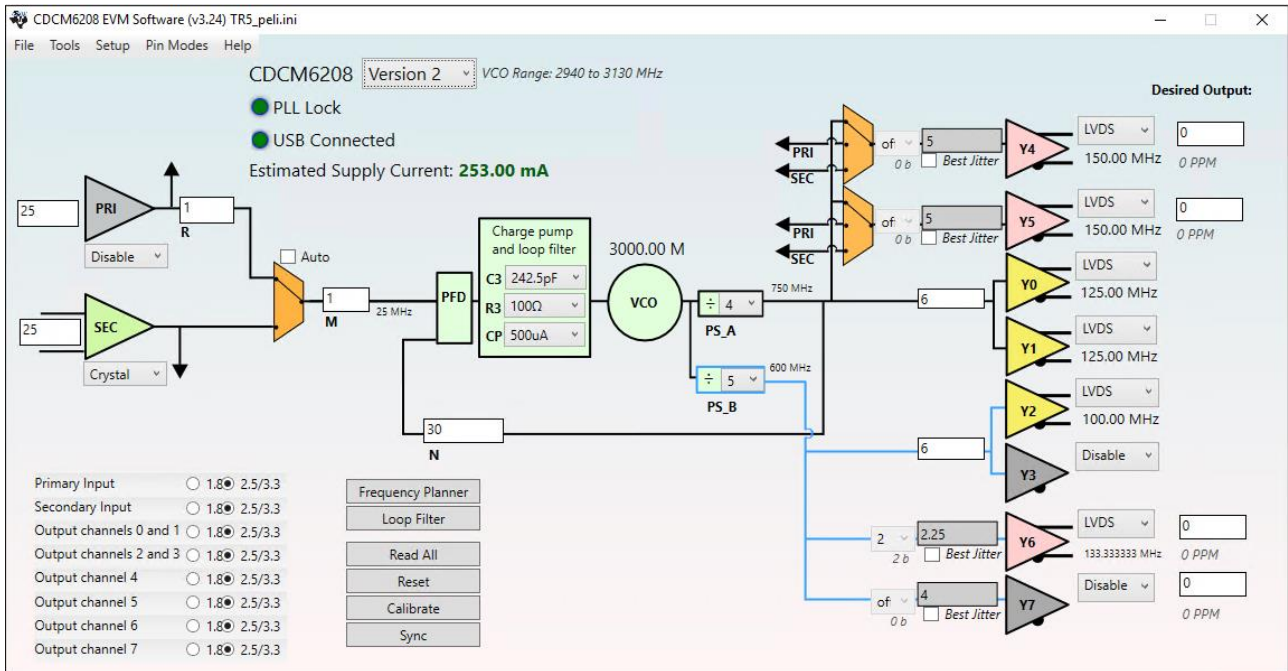

Figure 5-4 ClockBuilder Pro Wizard
1. Firstly, download ClockBuider Pro Software(See Figure 5-4), which is provided by TI. This tool can help users to set the CDCM6208's output frequency of each channel through the GUI